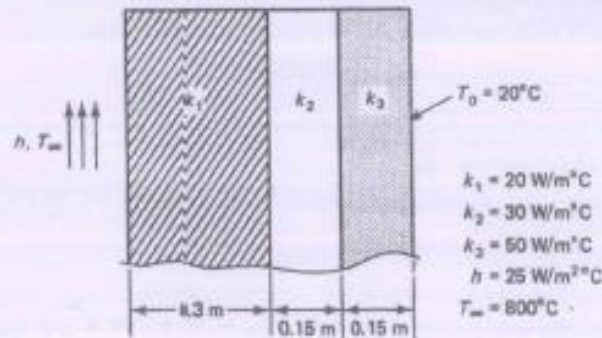

Figure.3
7. A composite wall consists of three materials as shown in Figure.3. The outer temperature is $T_0 = 20^\circ\text{C}$, convection heat transfer takes place on the inner surface of the wall with $T_\infty = 800^\circ\text{C}$ and $h = 25 \text{ W/m}^2\text{K}$. Determine the temperature distribution in the wall.